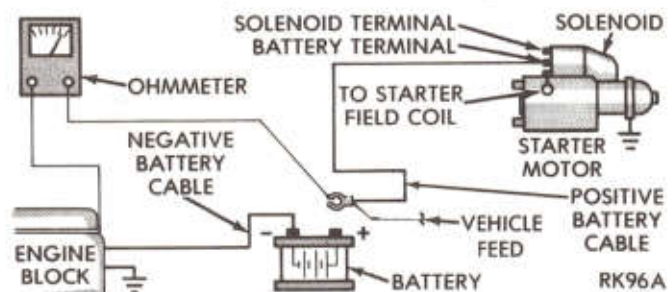

Fig. 7—Resistance Leak Test
(3) With an ohmmeter measure resistance between the disconnected positive cable end and vehicle's chassis or engine block (Fig. 7). A reading of over 200 ohms indicates no electrical drain.
(4) A reading under 200 ohms indicates a drain which must be corrected.
(5) Reconnect positive battery cable (Fig. 7). Do not tighten connection.
(6) Complete a visual inspection for obvious drains (light on, loose wiring connections, etc.) If vehicle is equipped with illuminated entry system, allow it to time out.
(7) Correct drain by replacing component(s) and correct wiring shorts as specified by applicable section of the service manuals.
(8) No obvious drains found: